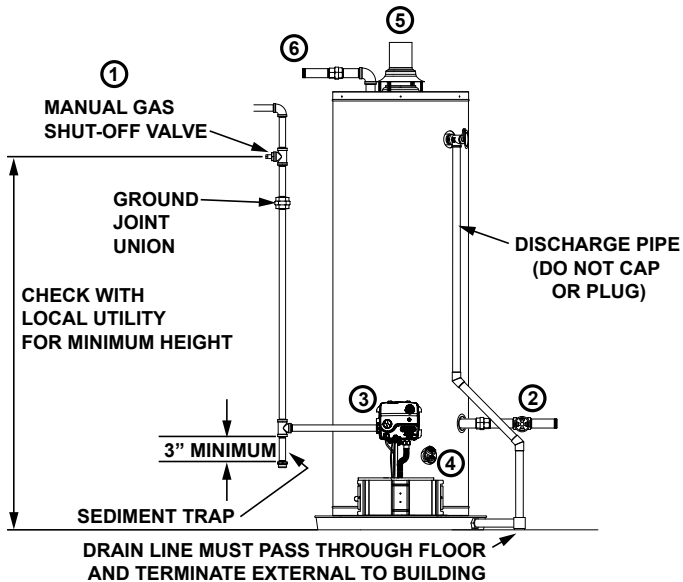

FIGURE 2.
If the main gas line shutoff valve serving all gas appliances is used, also shut "OFF" the gas at each appliance. Leave all gas appliances shut "OFF" until the water heater installation is completed. See Figures 2 and 3.
- ② Open a nearby hot water faucet until the water is no longer hot. When the water has cooled, turn "OFF" the water supply to the water heater at the water shut off valve or water meter. Some installations require that the water be turned off to the entire house. See Figures 2 and 4.
- ④ Attach a hose to the water heater drain valve and put the other end in a floor drain or outdoors. (See Figures 2 and 5.) Open the water heater drain valve. The water passing out of the drain valve may be extremely hot. To avoid being scalded, make sure all connections are tight and that the water flow is directed away from any person.